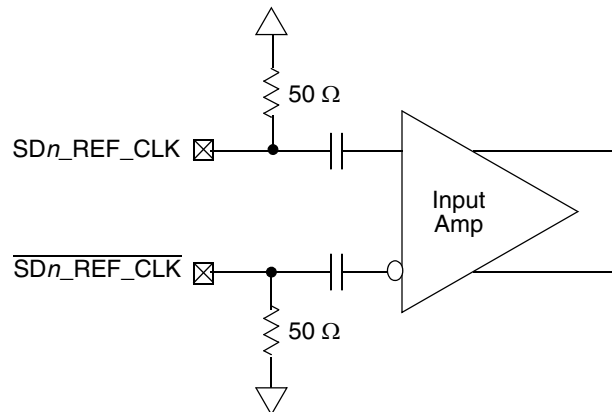

Figure 52. Receiver of SerDes Reference Clocks
Figure 52 shows a receiver reference diagram of the SerDes reference clocks.
- The $\overline{\text{SDn_REF_CLK}}$ and SDn_REF_CLK are internally AC-coupled differential inputs as shown in Figure 52. Each differential clock input ($\overline{\text{SDn_REF_CLK}}$ or SDn_REF_CLK) has a 50 Ω termination to SGND_SRDSn (xcovvss) followed by on-chip AC-coupling.